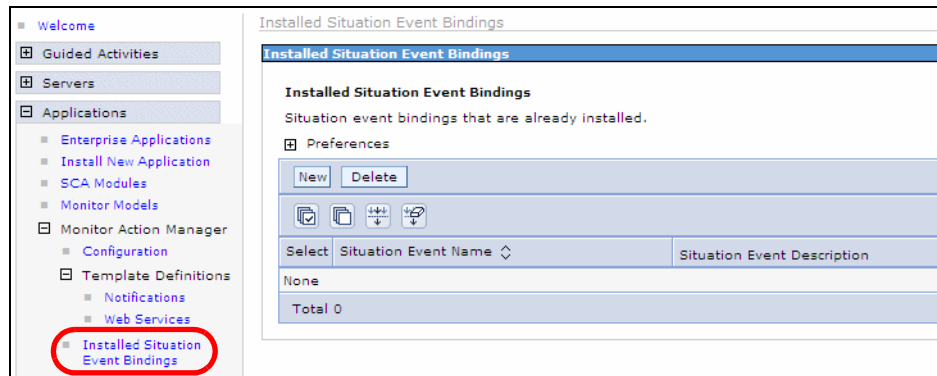

Figure 14-39 Adaptive Action Manager: Define situation event bindings
- ▶ Click *New* (Figure 14-39).